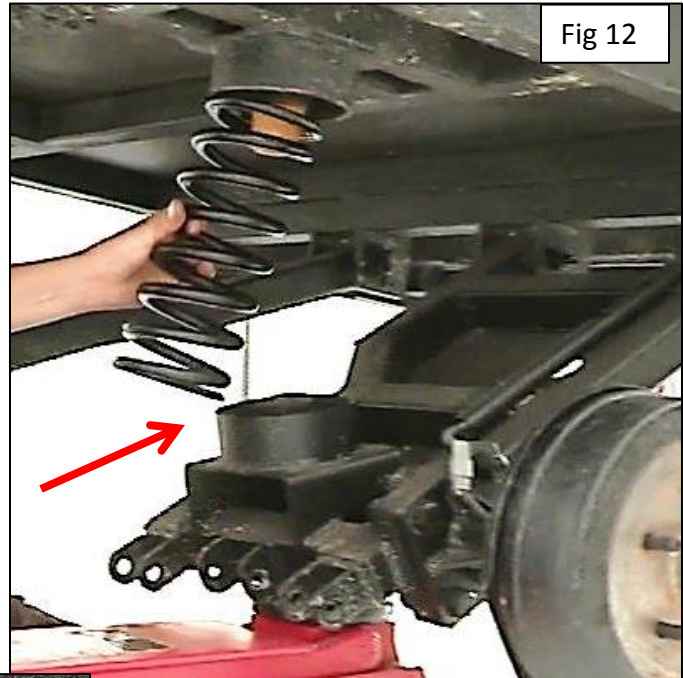

Fig 12
17. Install coil spring. Use jack to compress suspension once the spring is installed into the cup, as you raise the suspension be sure to line up the spring with the cups. Fig 12. Make sure coil is seated inside the rubber isolator.